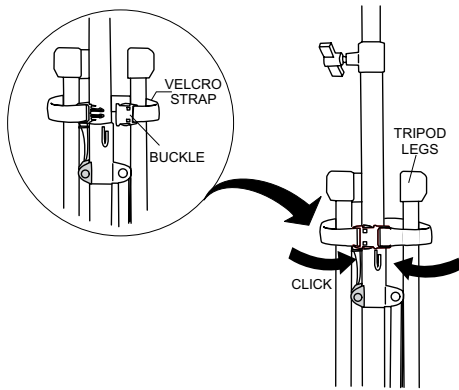

Figure 25. Velcro Strap (Closed)
- Once tripod legs are in the stow position, place velcro strap (Figure 25) around all three tripod legs. Secure tripod legs by inserting the male and female connector ends of the strap into each other.